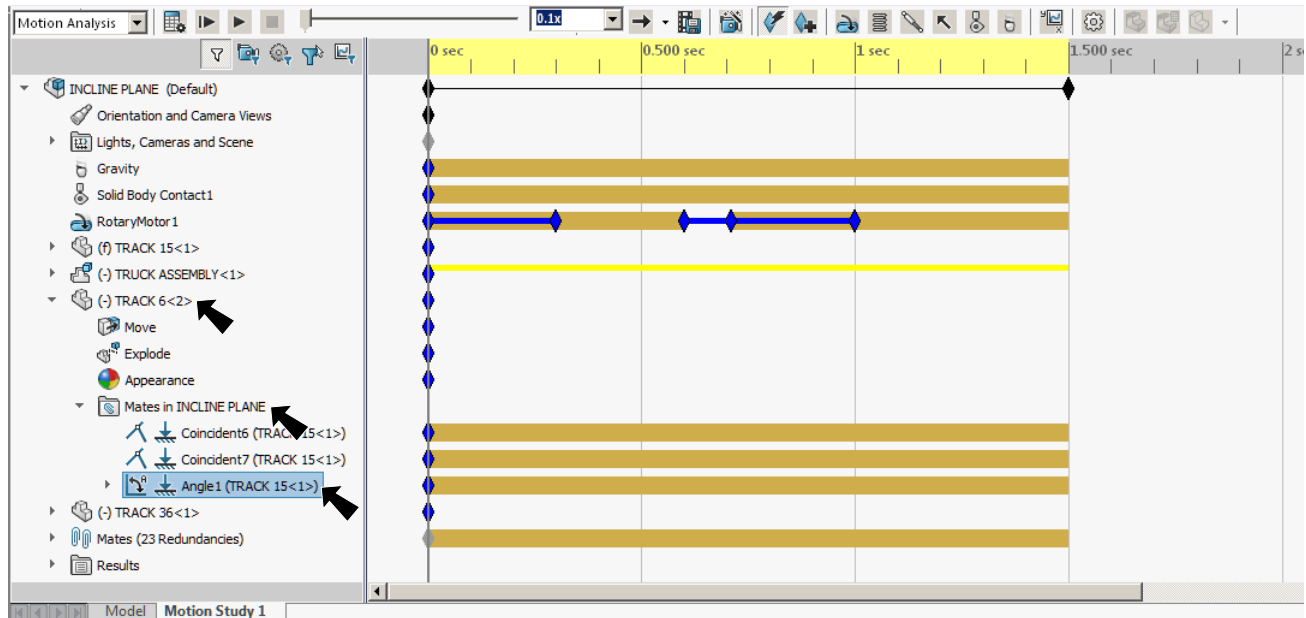

Fig. 1
Step 2. Expand **TRACK 6** and expand **Mates in INCLINE PLANE** in Motion Manager design tree, **Fig. 1**.
Step 3. **Double click** **Angle1 Mate**, **Fig. 1**.